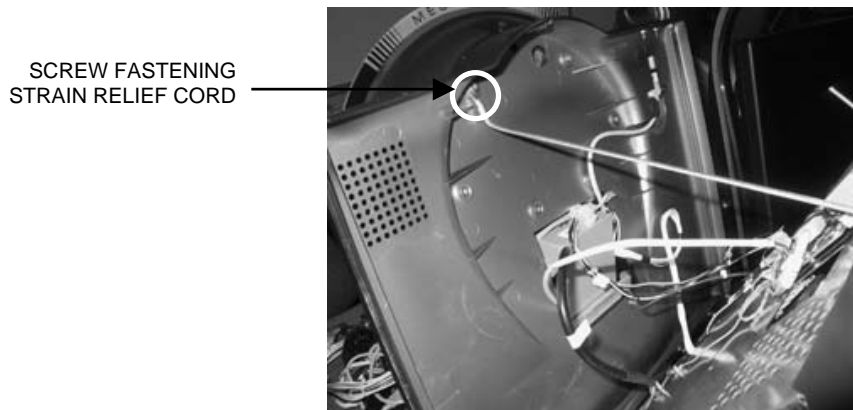

FIGURE 4 – HALF-WAY OPEN MONITOR ASSEMBLY
6. Open the monitor assembly halfway and remove the screw fastening the strain relief cord. See Figure 4. Open the assembly all the way and rest it on a support.